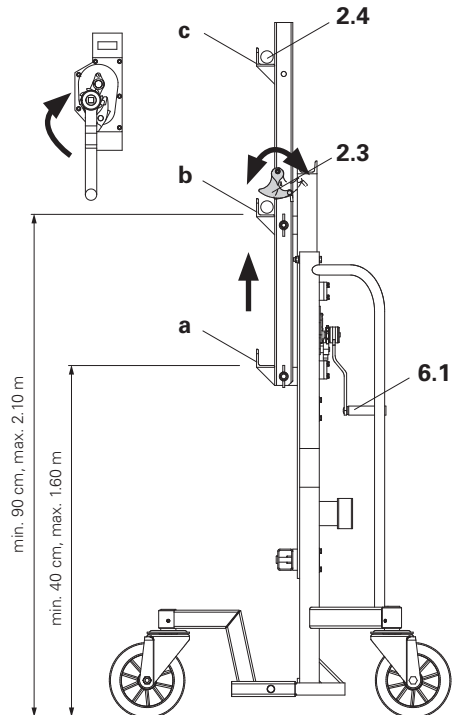

Fig. A1.05
3. Raise the load by turning the hand crank (6.1) in a clockwise direction. The safety pawls (2.3) are automatically pushed upwards at the rear, fall in a forward direction and thus secure the frame against lifting. (Fig. A1.05)